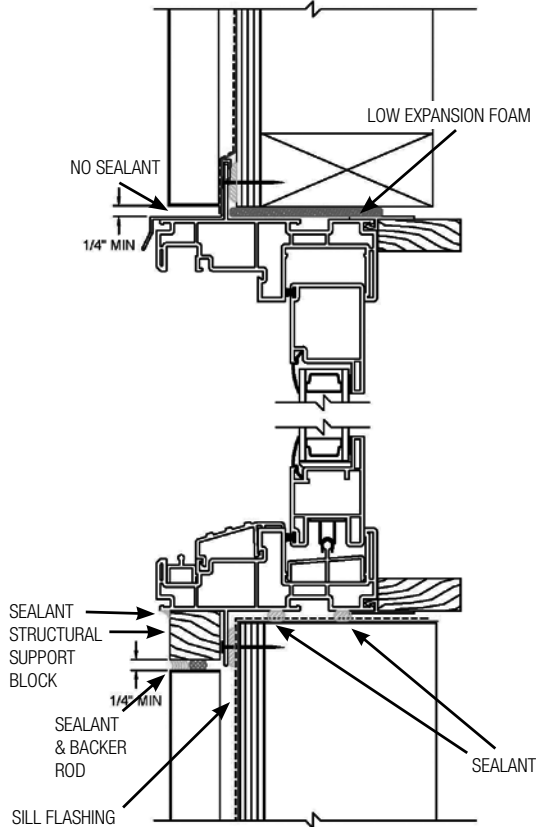
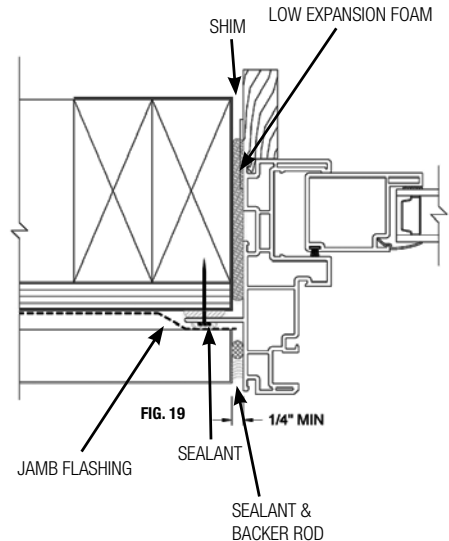

FIG. 18
FIG. 19
A) Support material is required on exterior sections of sliding patio doors. Install a structural wood support block at sill. (Fig 18)
- C) After siding or wall exterior is complete, apply backer rod and sealant between the door frame and siding material on both sides and sill. Make sure to use 100% neutral cure silicone sealant. (Fig 19)
- A) Install a seal around the full interior perimeter of the opening. On the side/jamb and top, apply minimally expanding window and door spray foam insulation. Use caution not to overfill the gap, causing the side/jamb to bow. It is not recommended to apply trim to the unit until the foam has cured to allow excess to escape. On the sill, apply a bead of sealant between the sill flashing and the door frame (Fig. 18 & Fig. 19)